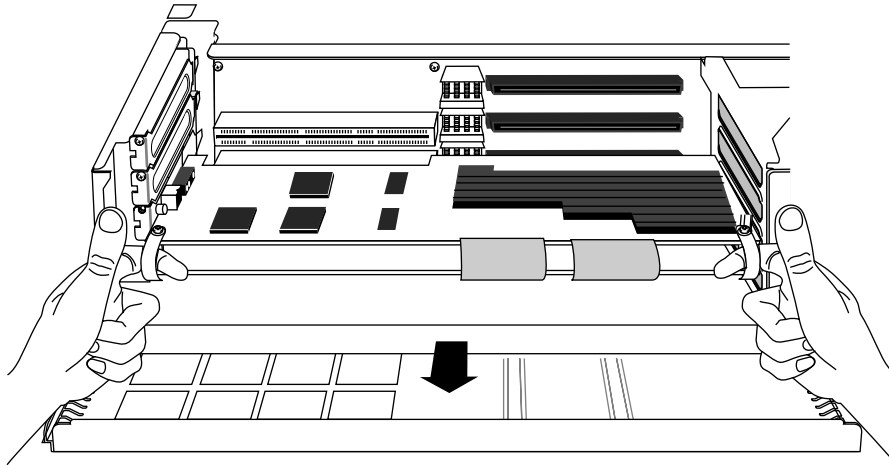

Figure 5-10 Removing the Board Set From the Chassis
- Place your index fingers behind the plastic loops on each side of the board set as shown in Figure 5-10.